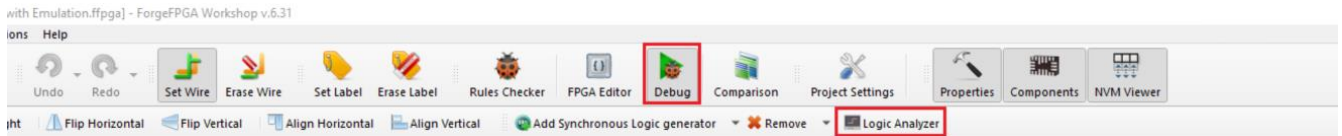
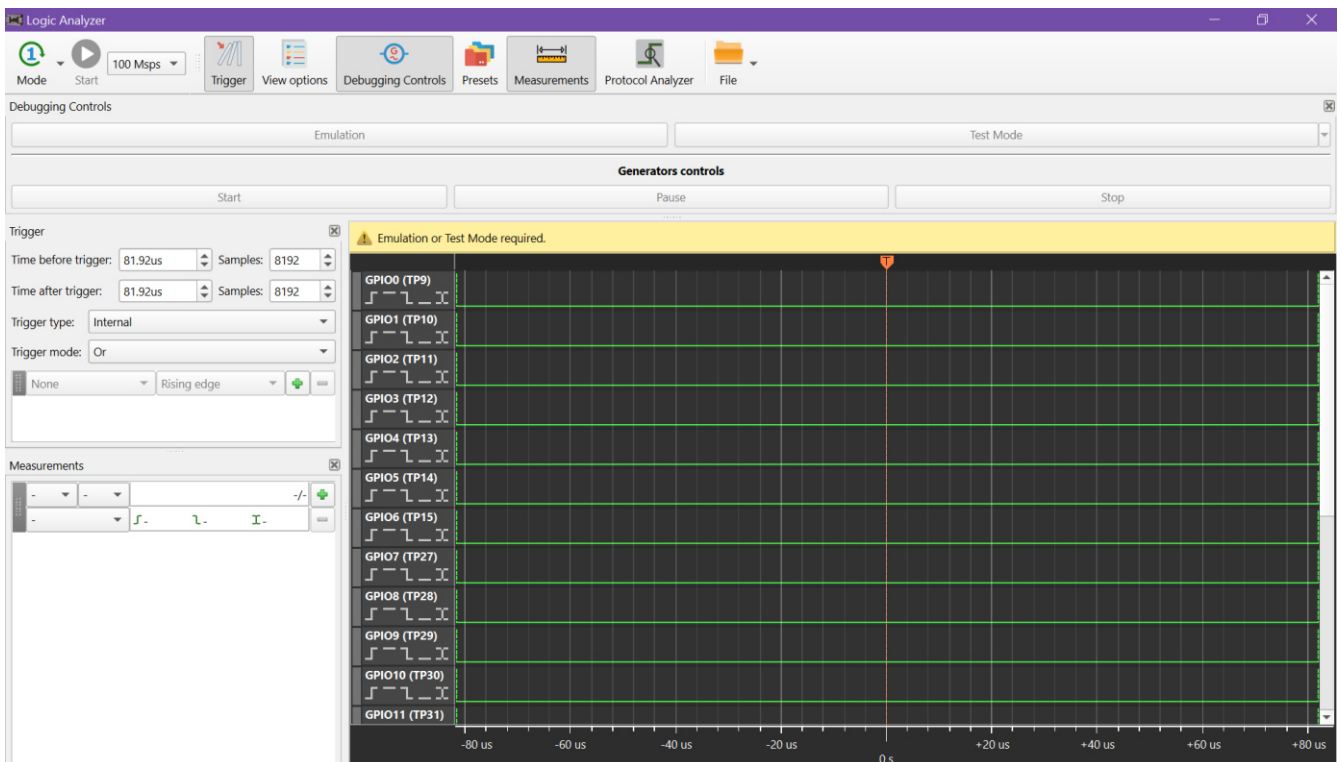

Figure 11: ForgeFPGA tool bar
Figure 12: Logic Analyzer window
Below are the different features in the Signal Wizard for Synchronous Logic Generator (Figure 12)
The logic analyzer allows the user to test how the design behaves on the ForgeFPGA silicon during emulation, whether in testing mode without external tools. The user can pop up the logic analyzer (Figure 12) by clicking the Logic analyzer button on the ForgeFPGA tool bar (Figure 11).
2. From the ForgeFPGA tool bar (Figure 12) select the FPGA Editor tab.